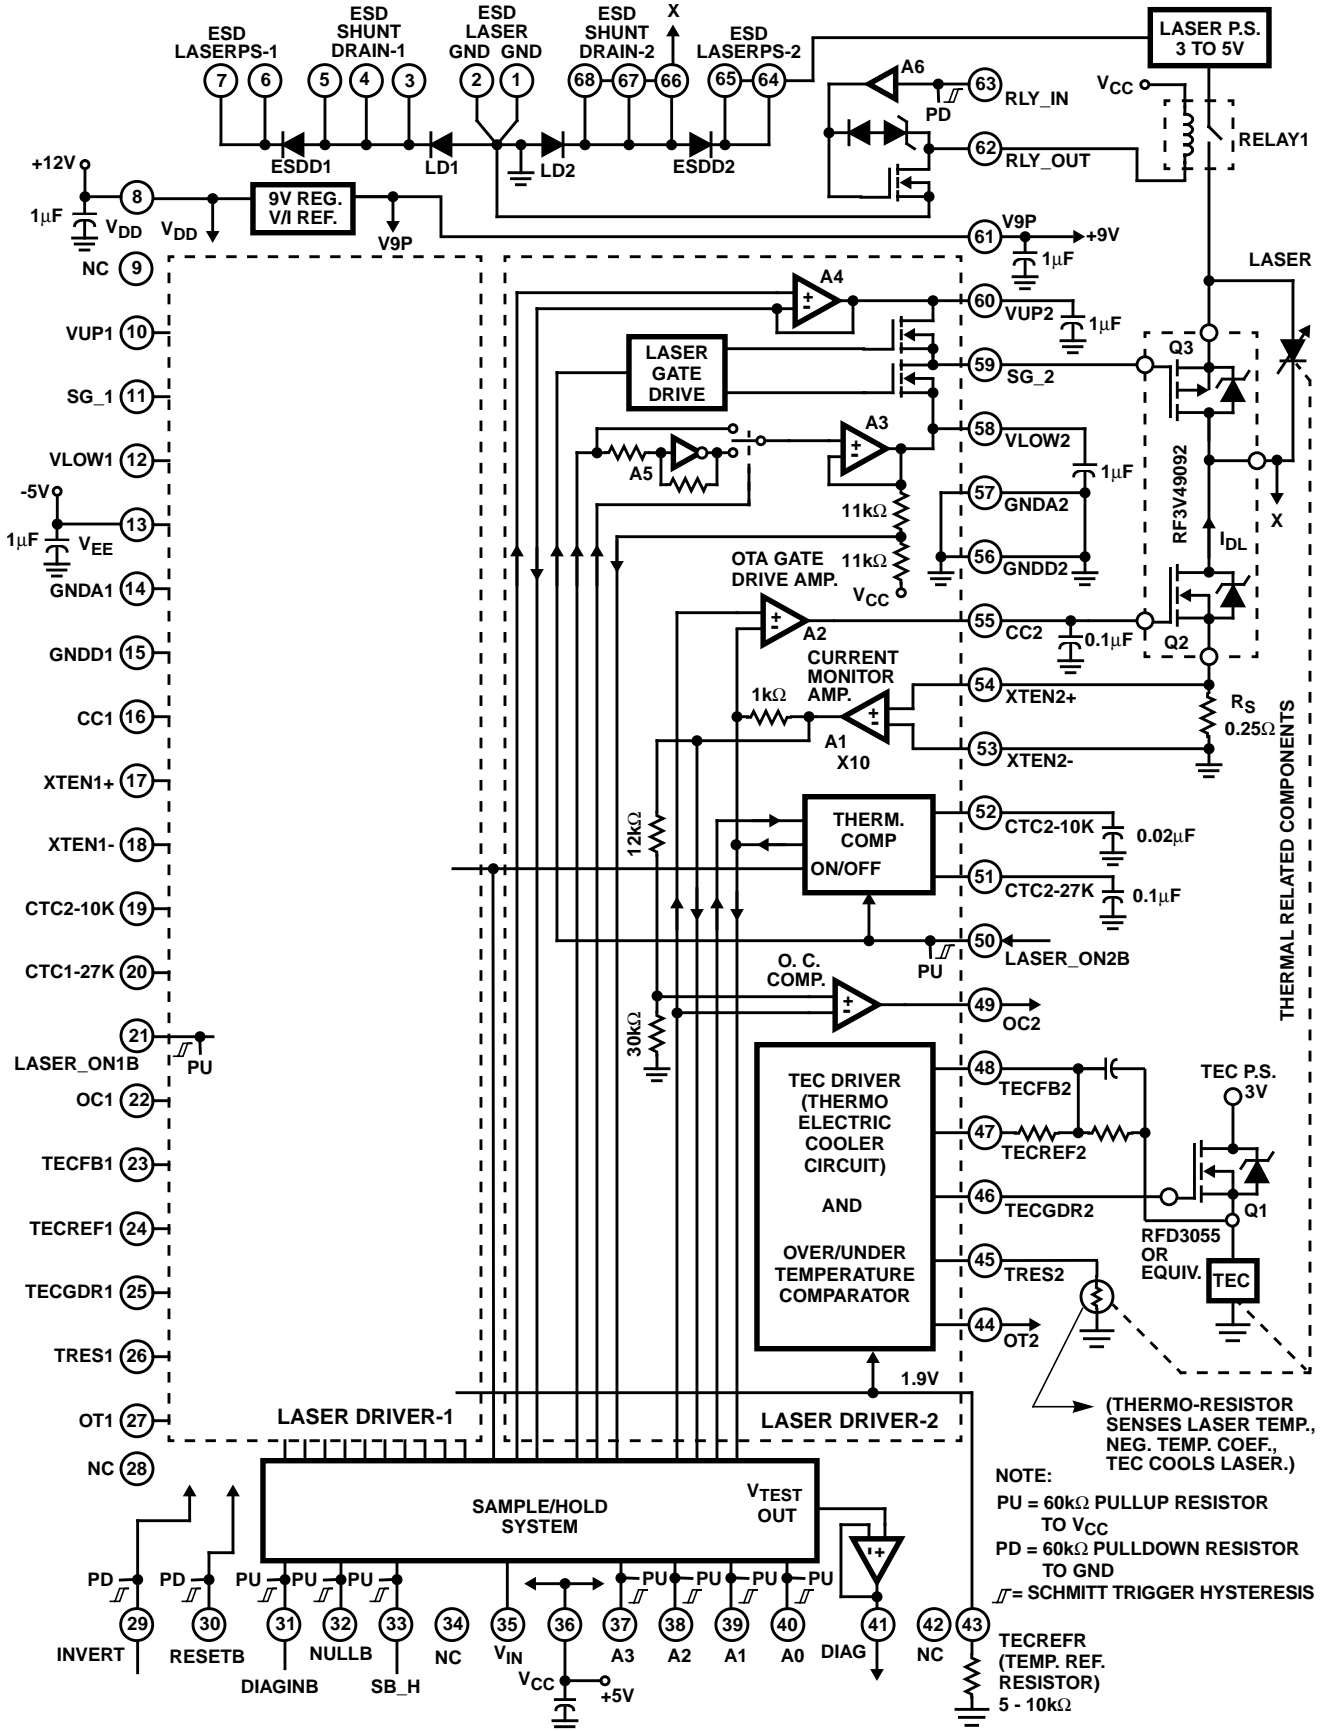

FIGURE 1. HIGH SPEED LASER DRIVER FUNCTIONAL BLOCK DIAGRAM SHOWN IN QUIESCENT P.S. CURRENT TEST MODE
**Electrical Specifications**  $T_J = 100^\circ\text{C}$ ,  $V_{DD} = 12\text{V}$ ,  $V_{CC} = 5\text{V}$ ,  $V_{EE} = -5\text{V}$ , INVERT Low (Figure 1 Configuration)